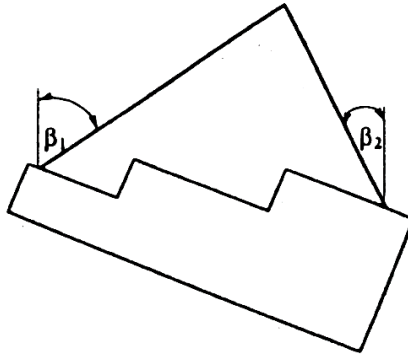

Figure 6: Example for unequal inclination angles β
- If different angles of inclination occur with 2-leg suspensions (Figure 6), only the working load limit of a single leg may be taken as a basis.